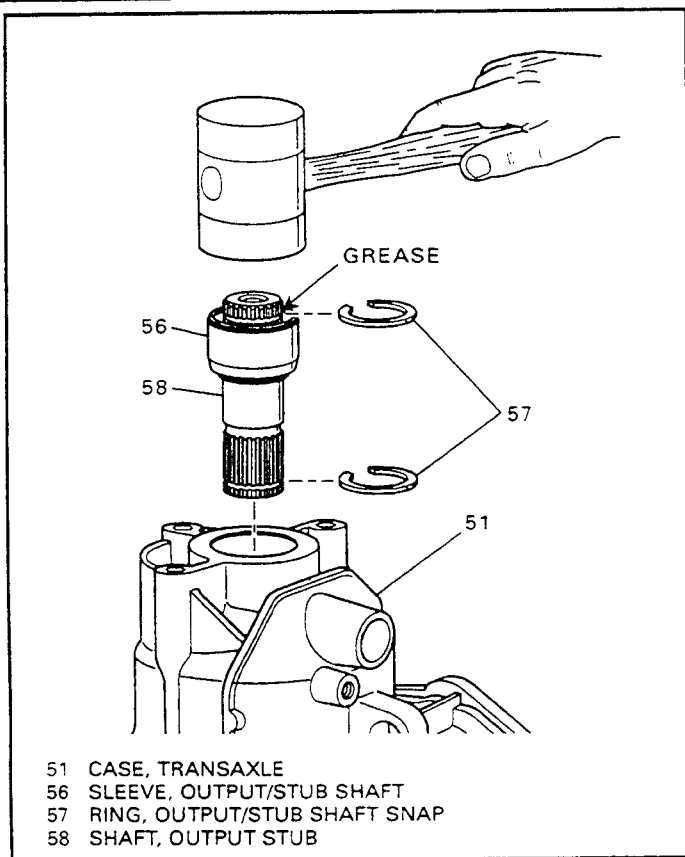

Figure 187
19. Inspect the stub shaft (58) for damage to the splines, snap ring grooves and journals.
20. Inspect the stub shaft sleeve (56) for scratches, nicks or damage that may cause a leak. If the sleeve appears damaged, it must be replaced using the same procedure for the removal and installation as with the output shaft.
21. Install two new snap rings (57) into the snap ring grooves on the stub shaft, as shown in Figure 187.
22. Install the stub shaft and sleeve assembly into the transaxle, using a mallet to install the shaft through the final drive differential gear, shown in Figure 187.